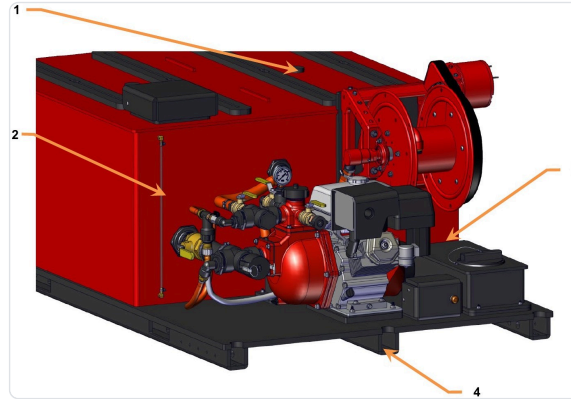

Figure 2. Tank
- Lift and move the unit only when the tank is **empty**, using the lift pins (Figure 2, Item 1) or the forklift runners (Figure 2, Item 4).
2. Watch the water level at the sight tube (Figure 2, Item 2) and close the fill well when full.